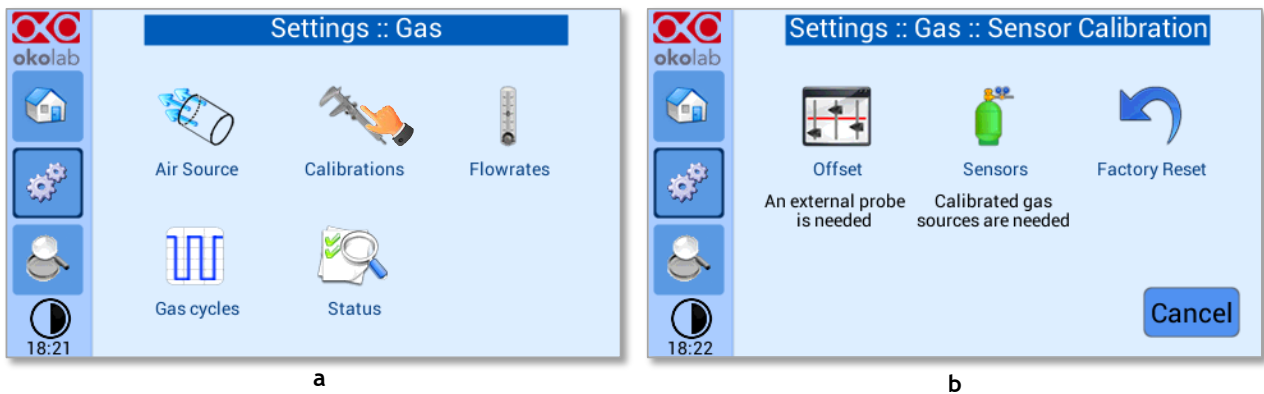

Figure 30. How to reach the Sensor Calibration Submenu (a – b).
Press on Calibration icon  to enter in the Calibration Menu, as shown in Figure 30.
1. It is necessary to attach the external gas meter to the connector “Gas Output” on the rear of the CO₂-O₂ Unit-BL [0-10; 0-1] (see Figure 30). If the TUBE-C is not suitable for the external meter you use, disconnect it from the “Gas Output” connector, remove it by keeping pushed the red ring of this connector.